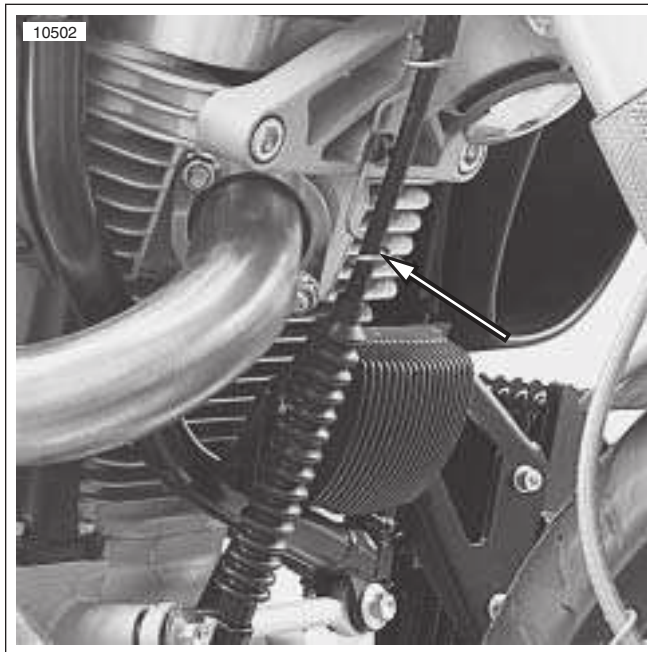

Figure 3-9. Clutch Cable Wire form
10. See Figure 3-9. Pull clutch cable back up into the proper position.